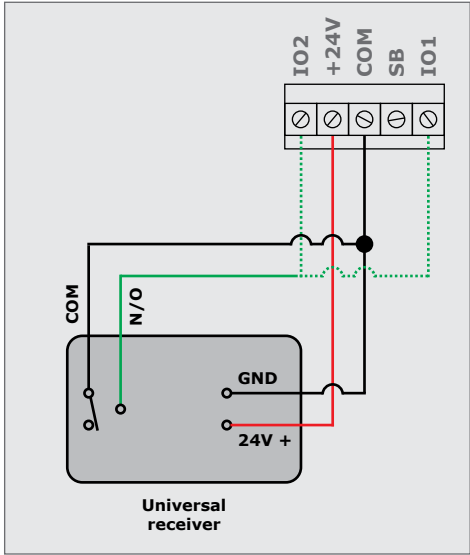

FIGURE 84. WIRING A UNIVERSAL RECEIVER TO THE SDO4 SMART
- The trigger/TRG (green wire) in Figures 84, 85 and 86 can be either wired into IO1 or IO2, depending on the sites individual needs